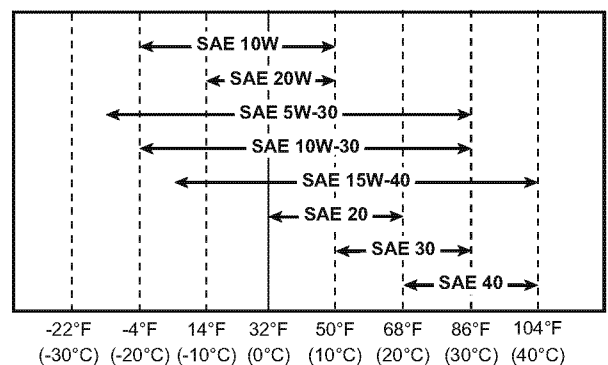

Figure 2
- Select the oil viscosity based on the ambient temperature where the engine is being operated. See the SAE service grade viscosity chart (Figure 2).
Select the appropriate engine oil viscosity based on the ambient temperature and use the SAE service grade viscosity chart in Figure 2.